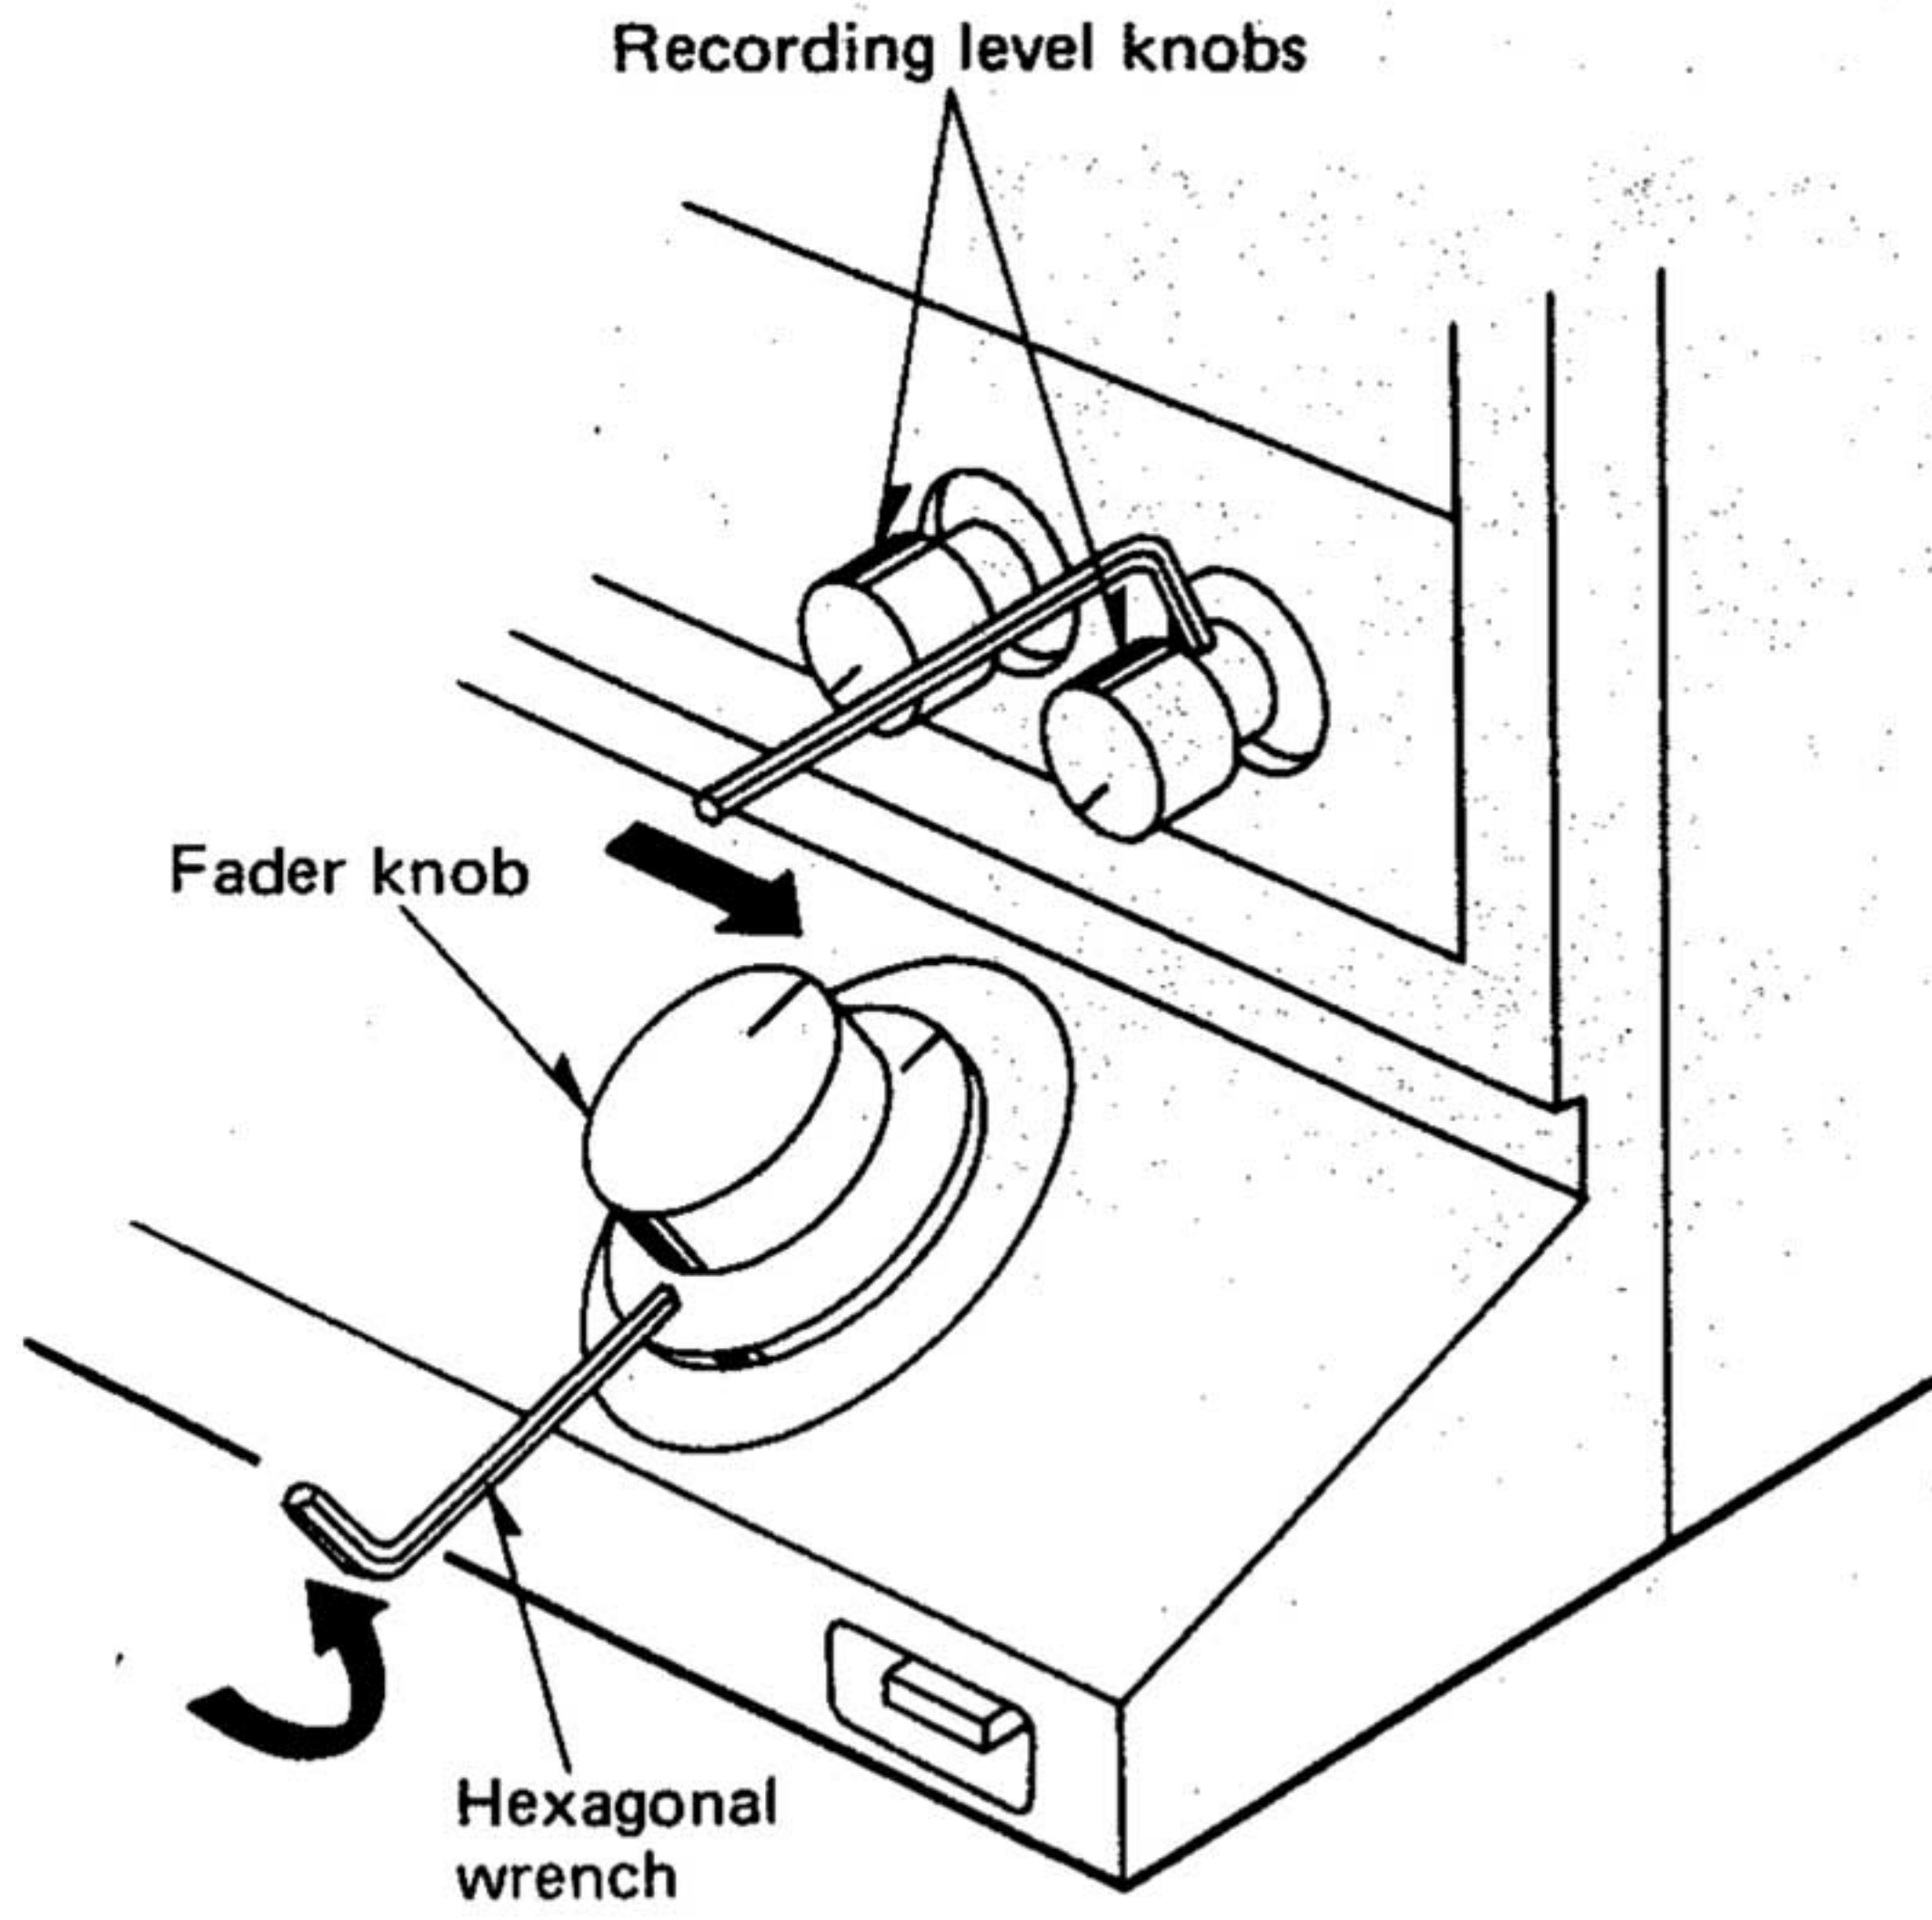

Fig. 7
1. Remove them with a hexagonal wrench (M3) as in Fig. 7.